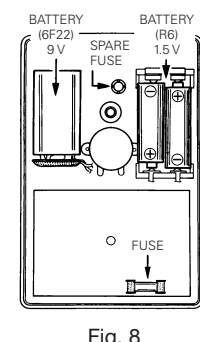

Fig. 8
3. When replacing battery, loosen the 4 Ø x12 screw on the rear case, remove the case, and insert the new batteries correctly with the right polarity as shown in Fig. 8.
2. When the fuse has burned out, the unit does not function. So replace it with the spare fuse (Ø 5x20 mm, 0.5 A/250 V) which is positioned as shown in Fig. 8.